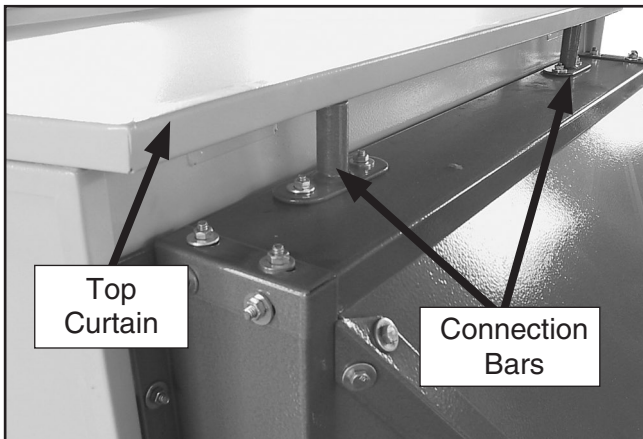

Figure 18. Top curtain and connection bars.
3. Insert the top curtain sockets into the connection bars as shown in **Figure 18**.